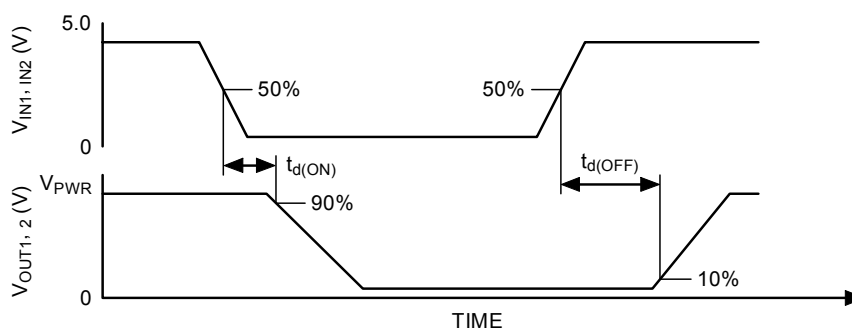

Figure 2. Output Delay Time
24. Output Delay is the time duration from the midpoint of the IN1 or IN2 input signal to the 10% or 90% point (dependent on the transition direction) of the OUT1 or OUT2 signal. If the output is transitioning HIGH-to-LOW, the delay is from the midpoint of the input signal to the 90% point of the output response signal. If the output is transitioning LOW-to-HIGH, the delay is from the midpoint of the input signal to the 10% point of the output response signal. See Figure 2, page 11.